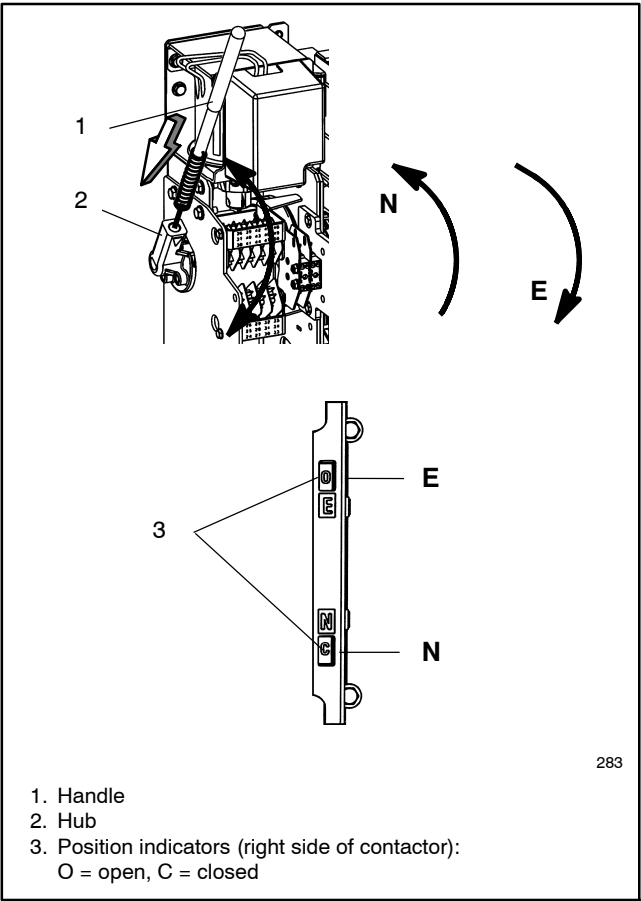

Figure 2-5 Manual Operation, 225–600 Amp Model KCS
3. **225–600 amp switches:** See Figure 2-5. Insert the maintenance handle into the hole in the shaft on the left side of the operator.